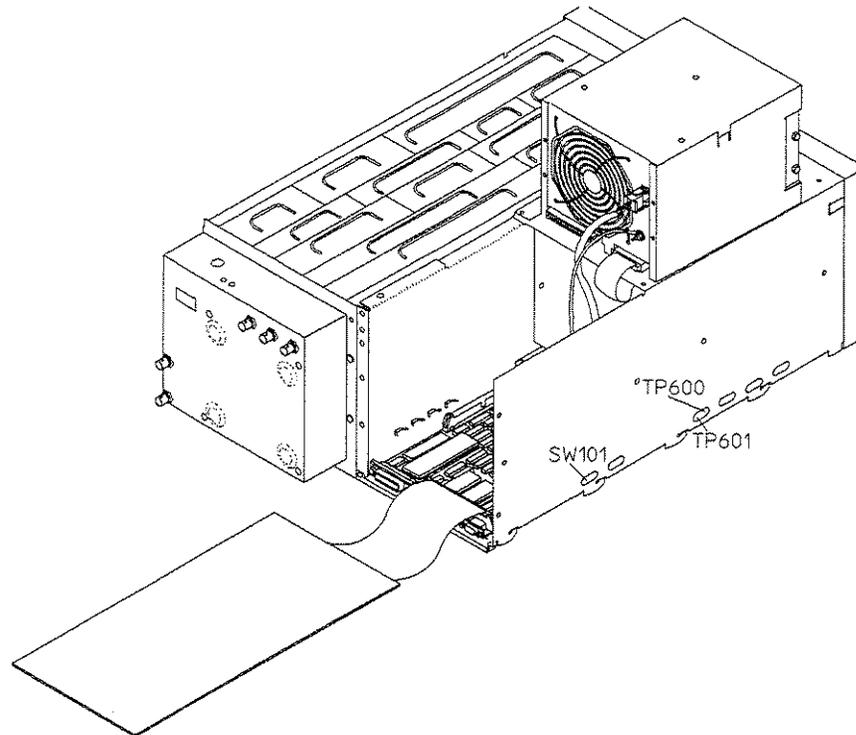

Figure 5-11. IIC Bus Test Locations
4. Set the power switch to ON (I). Press SW101 (reset switch) while monitoring TP600 (SCL) and the power-on test LEDs (see figure 5-11). If the CPU assembly is operating correctly, the TTL logic level at TP600 toggles once when 00 is displayed and again when A1 is displayed.